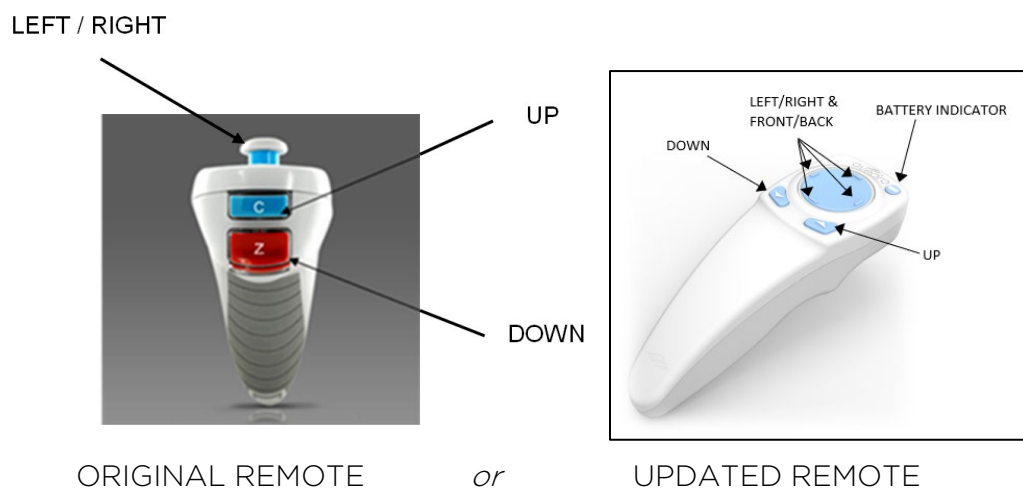

Figure 3-24. Remote Functions
- o NOTE: For correct alignment when using the remote, the Avedro logo on KXL head should face the user. Figure 3-24 displays the remote functions to use during the alignment process.